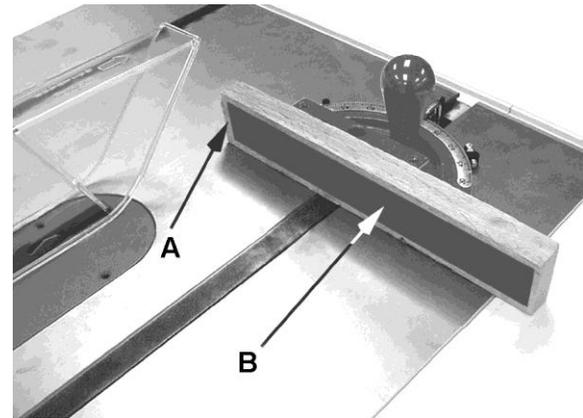

Figure 8-10
To improve the effectiveness of the miter gauge in crosscutting, some users mount an auxiliary wooden extension face (A, Figure 8-10) with a glued-on strip of sandpaper (B) to the miter gauge.